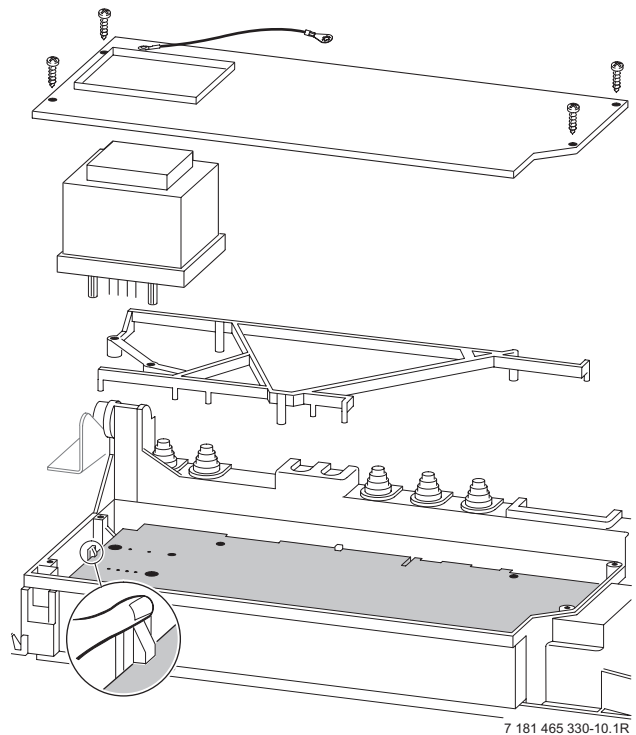

Fig. 62
- ▶ Unscrew four fixing screws from cover plate. Refer to fig. 62.